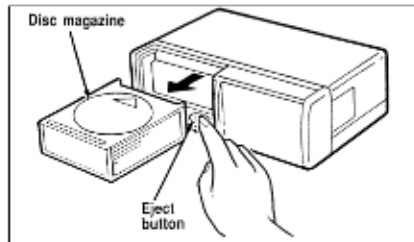

Figure 2
2. Push the ▲ button to eject the disc "magazine" (holds 6 discs) (Figure 2).